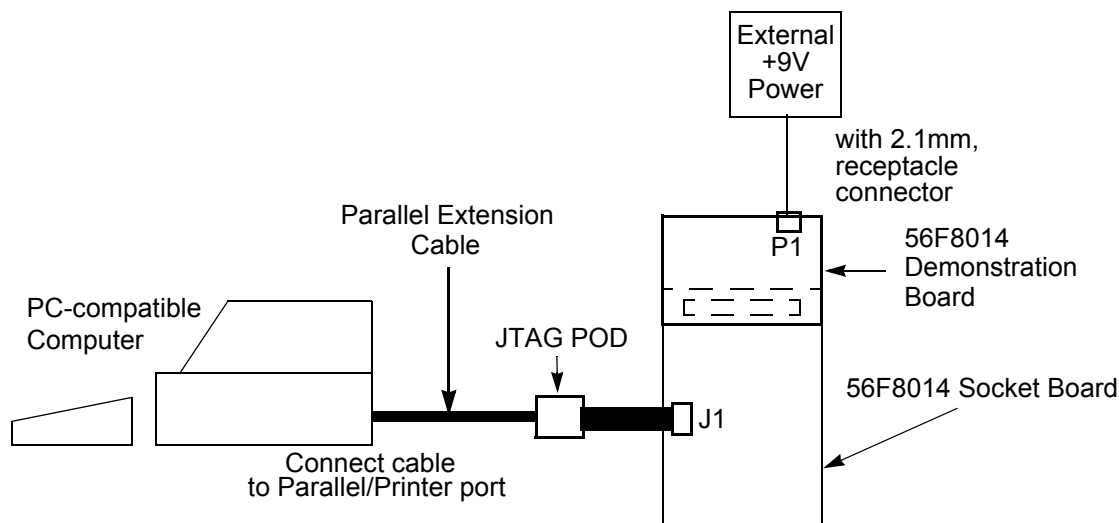

Figure 1-2. Connecting the 56F8014 Socket Board
An interconnection diagram is shown in Figure 1-2, connecting the PC, the external +9.0V DC power supply, the 56F8014 Socket Board and the 56F8014 Demonstration Board.
- Connect the ribbon cable from the JTAG interface POD to J1 on the 56F8014 Socket Board, shown in Figure 1-2. This provides the connection which allows the host computer to download code to the 56F8014 part on the 56F8014 Socket Board.
5. Connect the 2.1mm output power plug from the external power supply into P1 on the 56F8014 Demonstration Board, shown in Figure 1-2.